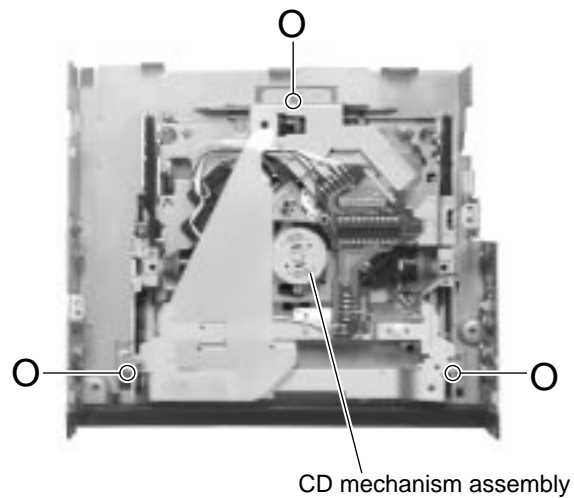

Fig.19
■ Removing the CD mechanism assembly (See Fig.19)